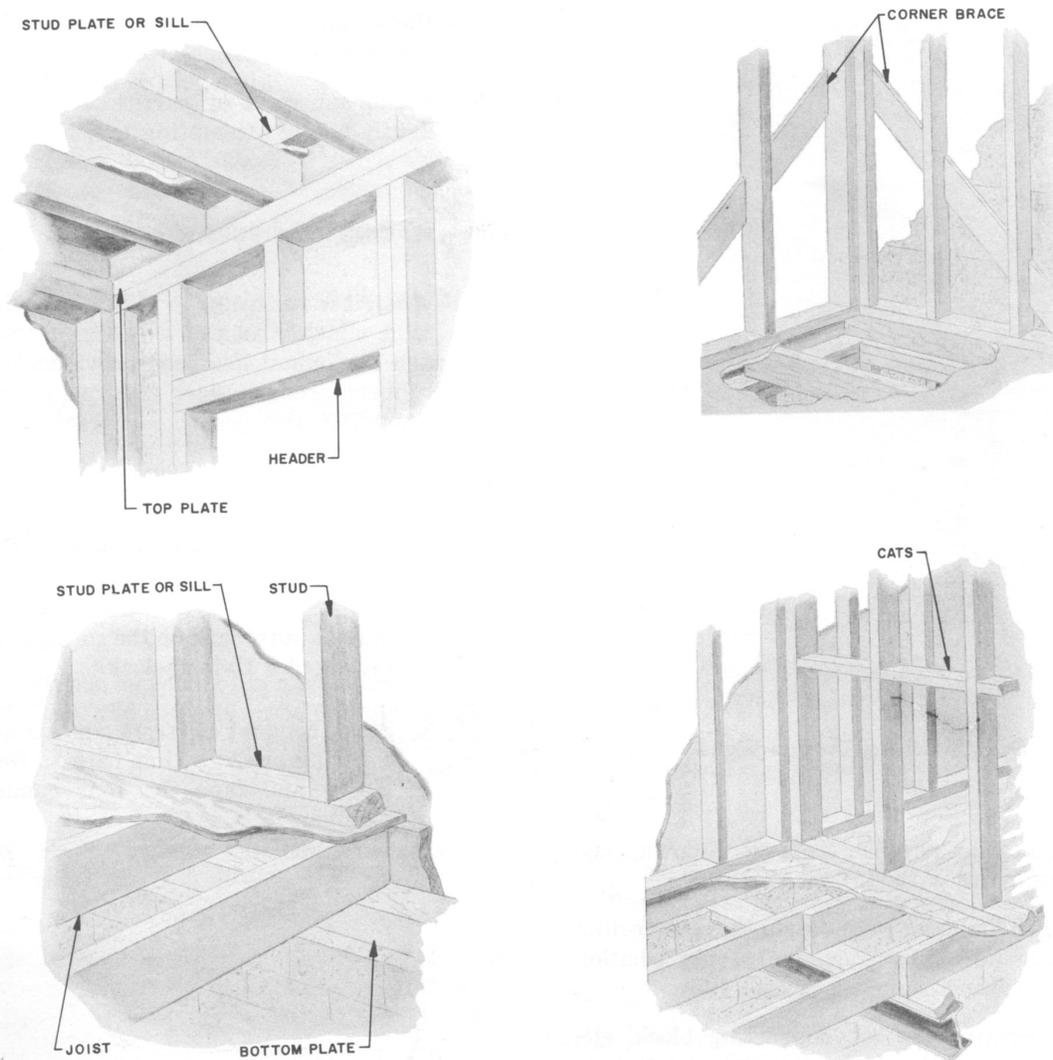

Fig. 5 – Wall Obstructions
- Some of the obstructions which may be encountered are shown in Fig. 5.